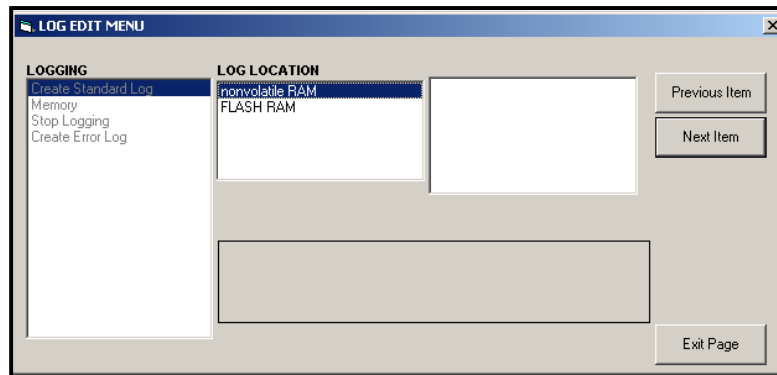

Figure 12: *Log Location* in the *Create Standard Log* Option
- a. Double-click on the *Create Standard Log* option. The window now appears similar to *Figure 12*.